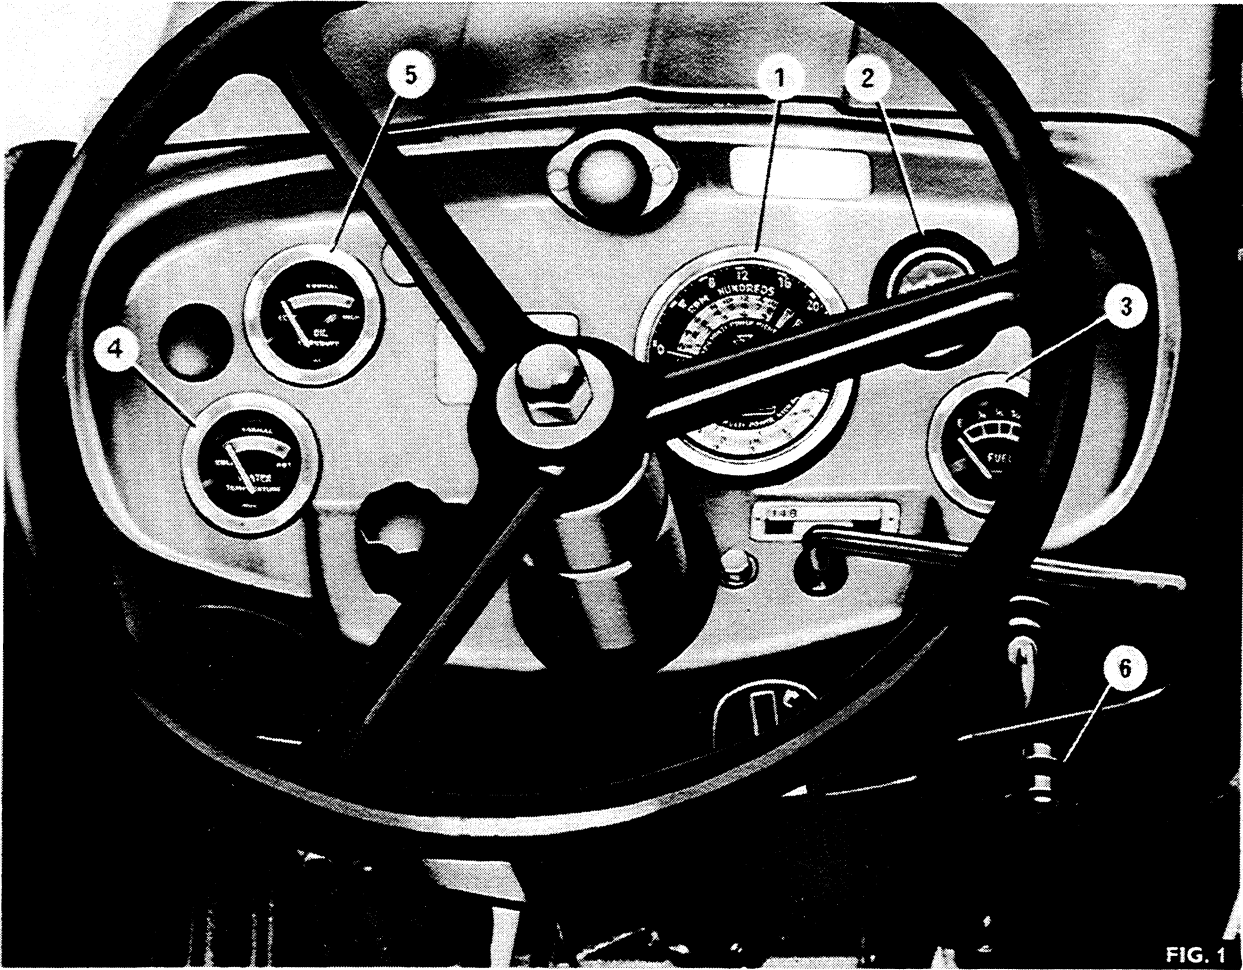

FIG. 1
**Tractormeter (1, Fig. 1 and Fig. 2a and 2b)**
### Ammeter (2, Fig. 1)
### Fuel Gauge (3, Fig. 1)
### Temperature Gauge (4, Fig. 1)
### Oil Pressure Gauge (5, Fig. 1)
### Air Cleaner Service Indicator (6, Fig. 1)